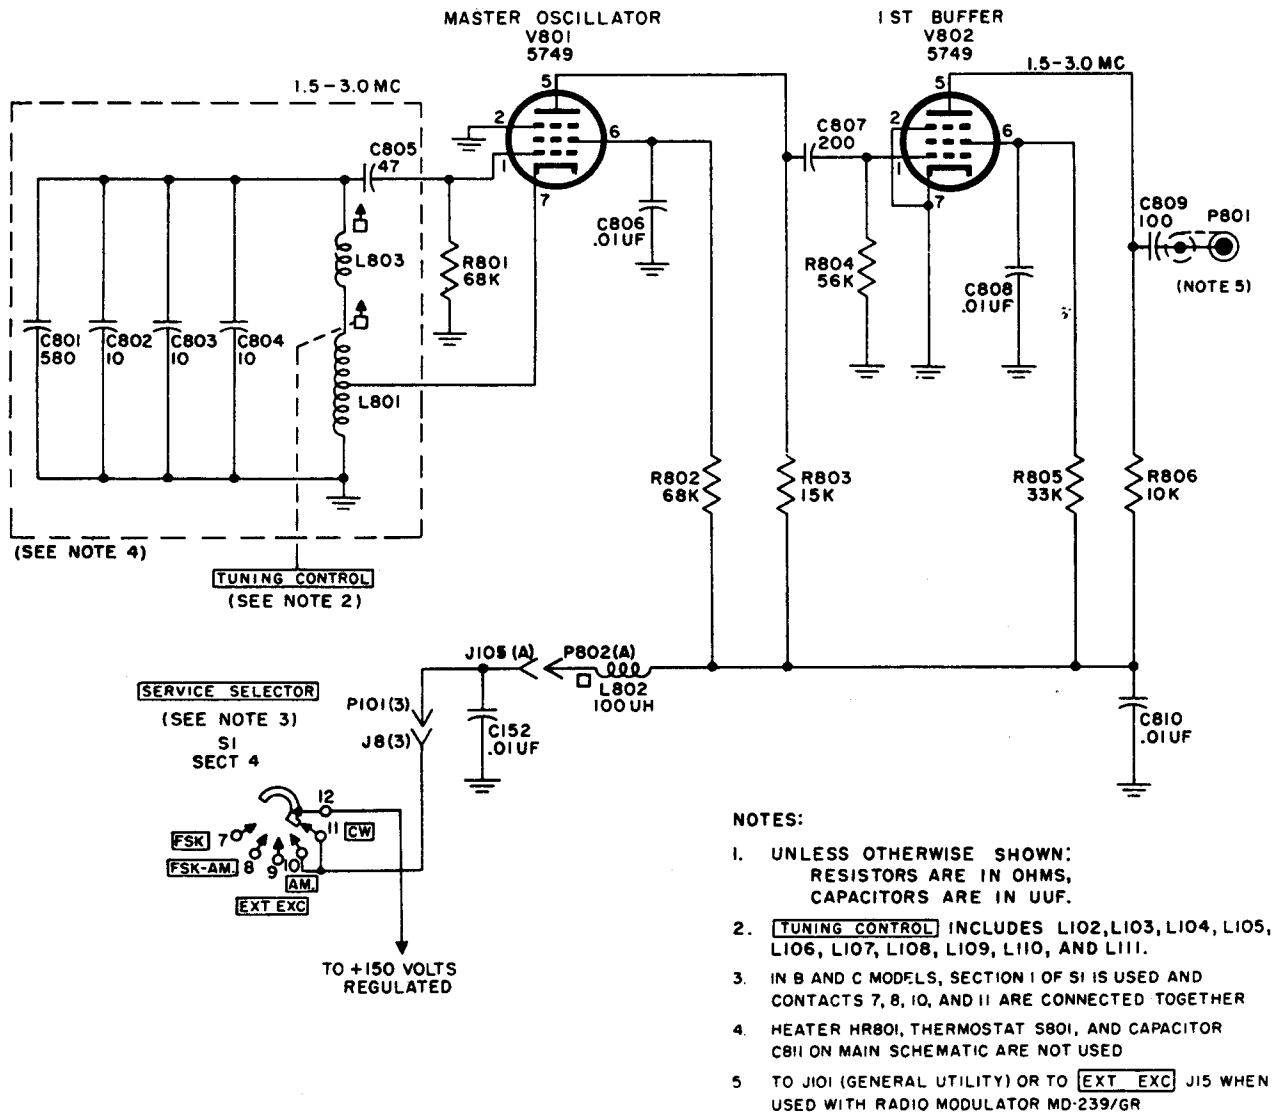

Figure 3. Master oscillator and first buffer stages.
3. Master Oscillator and First Buffer Stages (fig. 3)